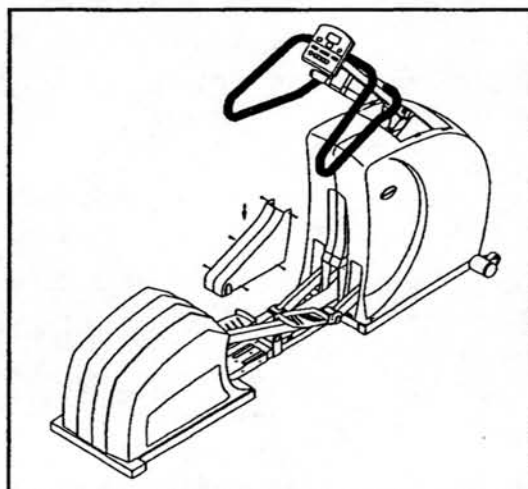

Fig.2-9
4. Secure the PROTECTIVE CENTER COVER with screws. (see fig.2-9)